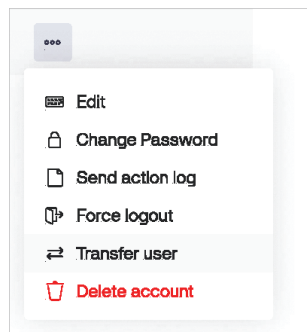

Figure 61. Transfer User Option
4. Click on the “...” menu on the right of the user that wants to be transferred, and click on “Transfer user”. See **Figure 61**.